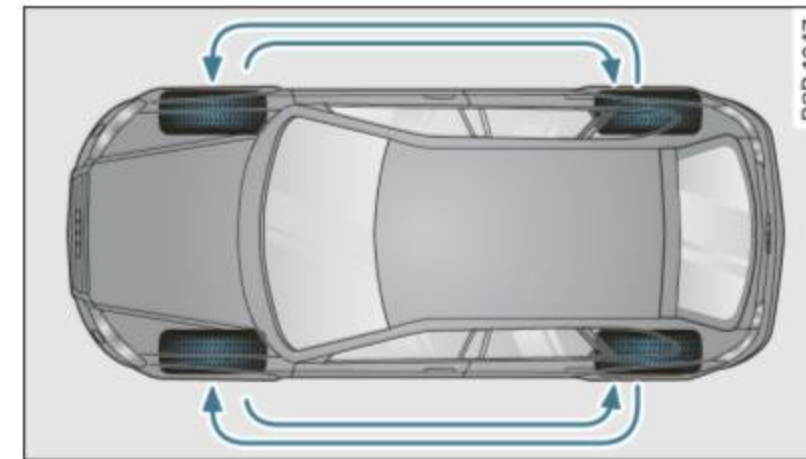

Fig. 198 Rotating tires for more even wear
- Please rotate tires as shown ⇒ *page 281*, fig. 198.